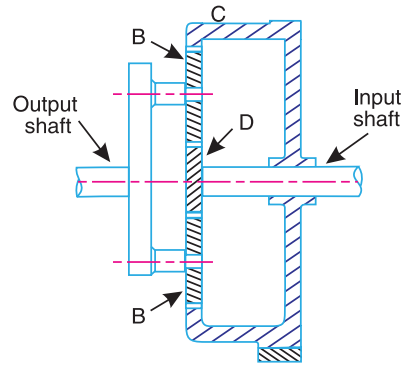

Fig. 13.47
18. In the epicyclic reduction gear, as shown in Fig. 13.47, the sunwheel D has 20 teeth and is keyed to the input shaft. Two planet wheels B , each having 50 teeth, gear with wheel D and are carried by an arm A fixed to the output shaft. The wheels B also mesh with an internal gear C which is fixed. The input shaft rotates at 2100 r.p.m. Determine the speed of the output shaft and the torque required to fix C when the gears are transmitting 30 kW.